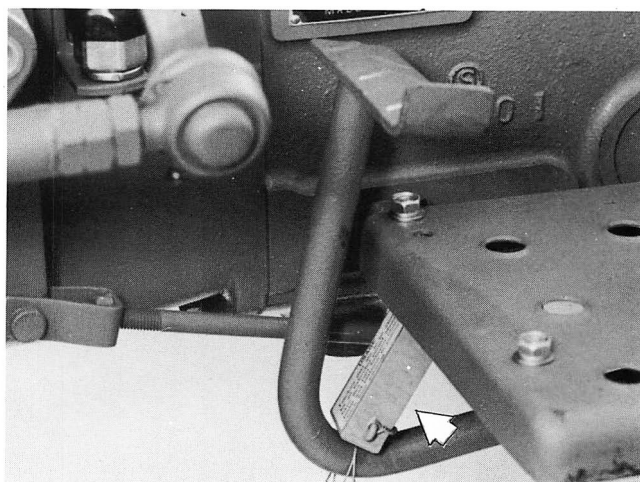

Figure 72 — Installing Pedal Spacer
10. Place pedal spacer between clutch pedal and step plate to separate clutch disc from flywheel (Figure 72).